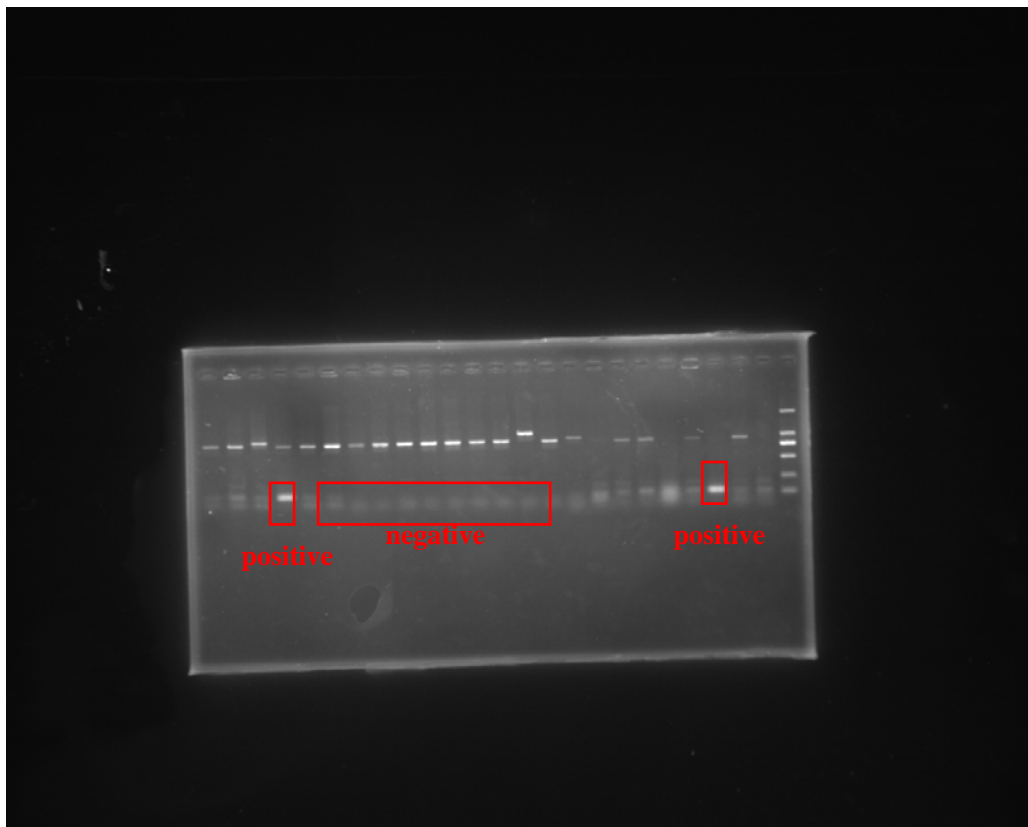

Fig.2 Colony PCR
8. The construction is accurate if DNA strips appear(positive), in reverse the construction is fa  $\mu$  Lt (negative)(Fig.2).